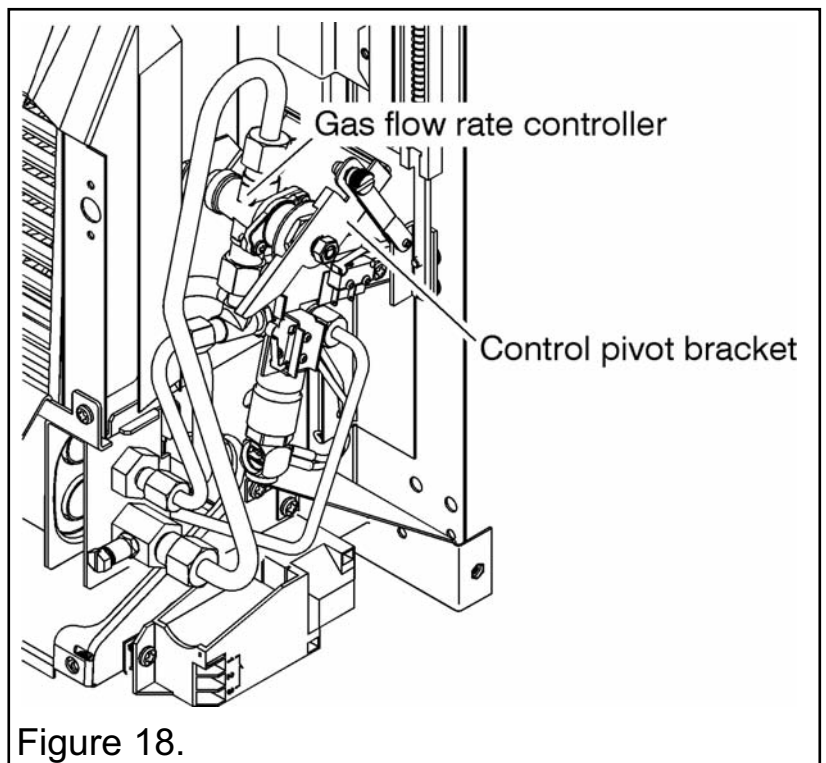

Figure 18.
8. Detach the left end of the burner module from the radiant box by removing one screw and a wing nut (See figure 18).
The gas flow controller and pivot bracket are identified in figure 18.